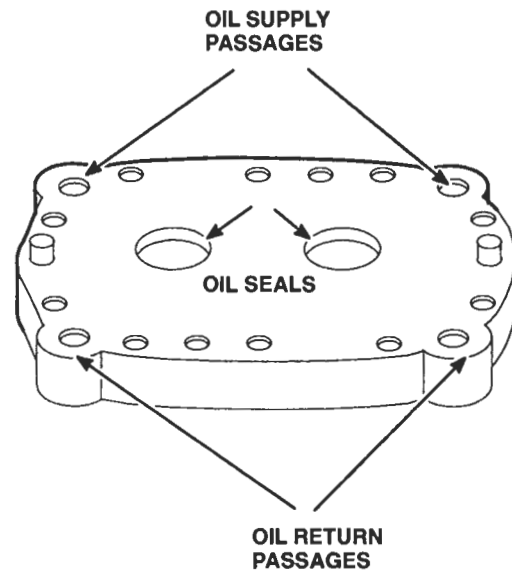

Figure 14. Blower End Plate and Lip Type Oil Seal Location
- e. Install an oil seal ring in the ring groove of each carrier with a pair of snap ring pliers J 4880 in the same manner (Figure 14.)